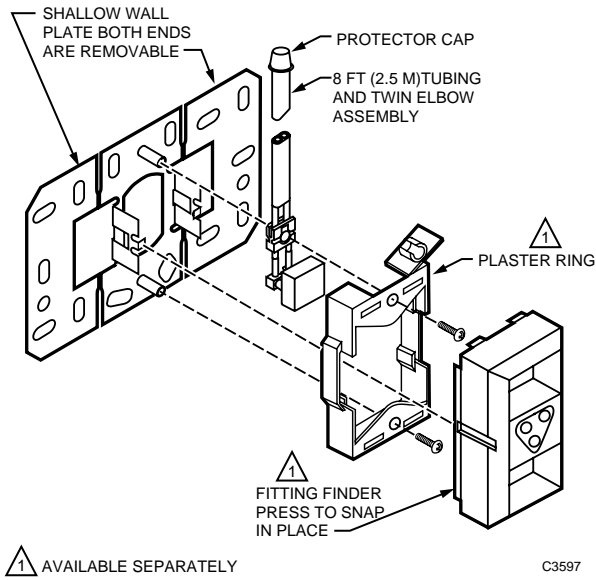

Fig. 43. Shallow Wall Plate Assembly.
- Shallow Wall Plate Assembly 14001615-001/-002 or 14001616-001/-002 (Fig. 43). Includes the following: